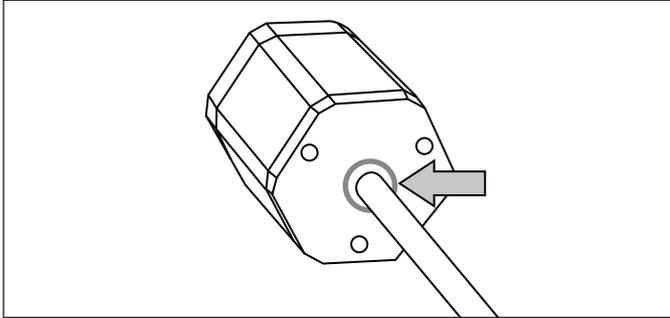

Fig. 22: Correct position of the O-ring in the groove of the sensor electronics housing
- Ensure that the O-ring seal (part no. 562 003) is correctly inserted in the groove on the sensor electronics housing before inserting the base unit into the support tube and attaching the sensor electronics (Fig. 22).
- Ensure that the O-ring seal (part no. 562 003) is correctly inserted in the groove on the sensor electronics housing before inserting the base unit into the support tube or the HFP profile and attaching the sensor electronics (Fig. 22).